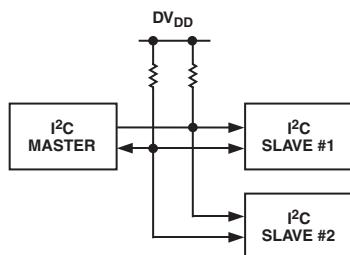

Figure 35. Typical I²C System
- An I²C master can communicate with multiple slave devices. Because each slave device has a unique 7-bit address, single master/slave relationships can exist at all times even in a multislave environment (Figure 35).